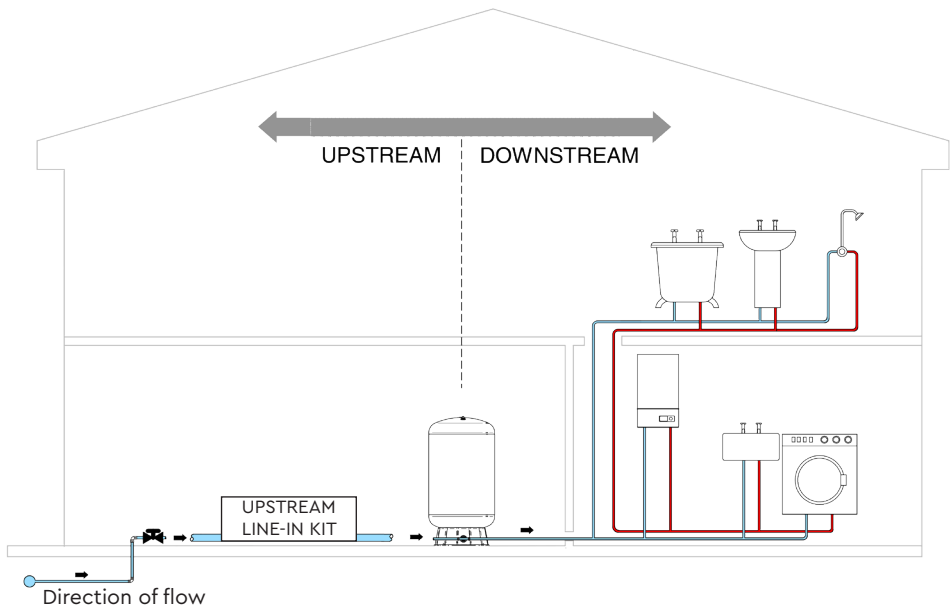

Fig. 3 System designation
- 3.16 **Direction of flow:** See Fig. 3 to identify the suction and discharge connections.
The term 'Downstream' refers to the system configuration from the outlet tapping on the Mainsboost vessel, along the distribution header (if configured in this way) and into the distribution pipework and outlets. This includes hot and cold services where both are present (see Fig. 3).